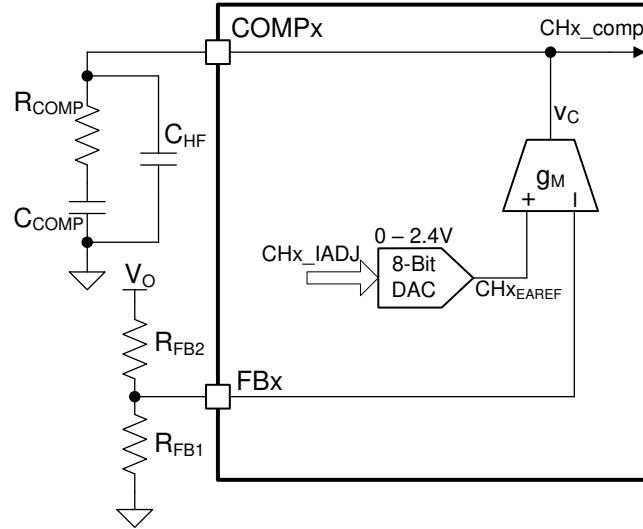

图 8-9. Proportional Integral Compensator
The feedback transfer function includes the voltage divider gain ( $H_{FB} = R_{FB1} / (R_{FB1} + R_{FB2})$ ) and the transconductance amplifier gain. A compensation network at the output of the error amplifier is used to configure loop gain and phase characteristics. In CV BOOST application, a Proportional-Integral (PI) compensation is recommended. A network of  $R_{COMP}$ ,  $C_{COMP}$ , and  $C_{HF}$ , shown in 图 8-9, can be used to implement PI compensation to create a pole at the origin, a low-frequency zero, and a high-frequency pole.